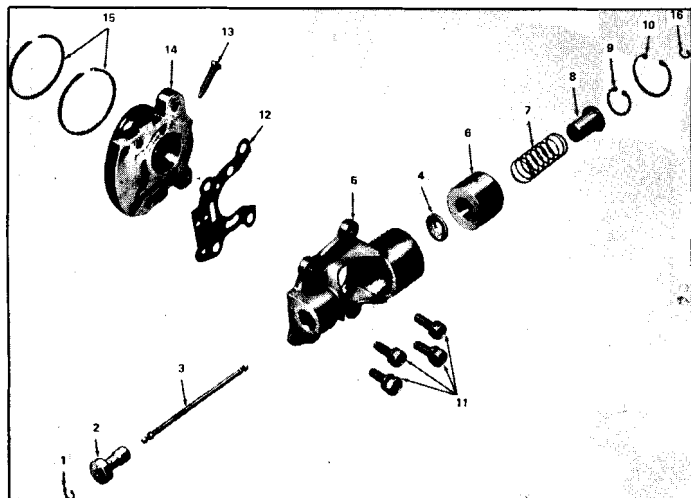

Fig. 7F-61 Exploded View of Governor
1. Remove outer weight assembly by sliding toward center of governor body, remove large snap ring and remove weight assembly from governor body (Fig. 7F-61).